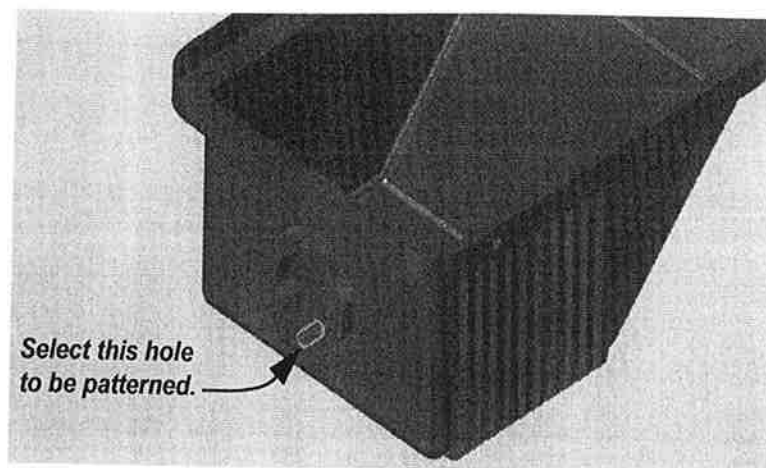

Figure 13–19
3. Select the hole shown in Figure 13–19 as the feature to be patterned. Once the object is selected, the *Objects* field in the palette indicates that 1 item has been selected, and the object highlights in blue.